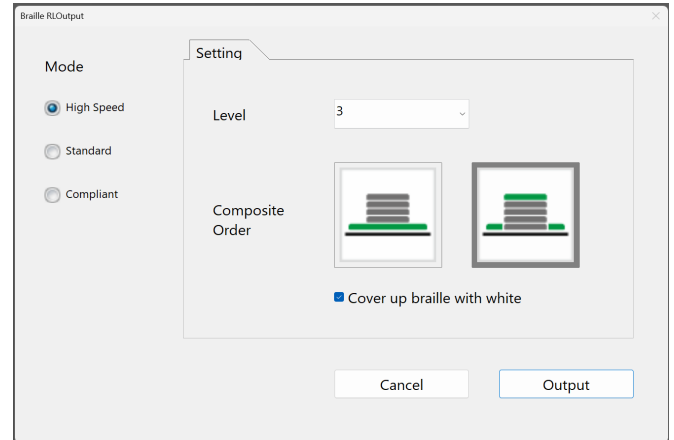

fig. 5
1.4 MENU DIALOGUE OPTIONS fig. 5